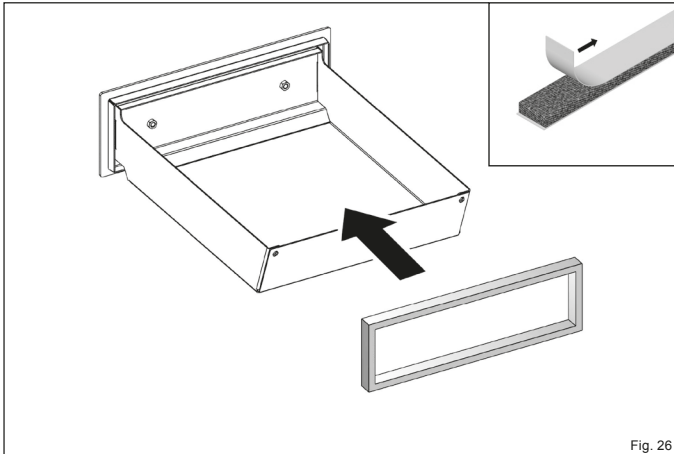

Fig. 26
- ▶ Push the new seal evenly into the rail of the ash drawer (Fig. 26).